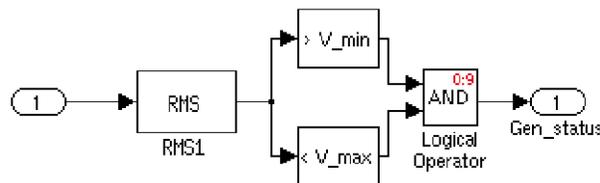

Fig. 3: Simulink block to monitor the generator's RMS voltage and detect violations of the desired range.
- To generate events for your BPCU, you will need to monitor each generator's output voltage and make sure that the RMS voltage is between  $V_{min}$  and  $V_{max}$ . As an example, you can implement such an RMS "sensor" out of Simulink standard library blocks, as shown in Fig. 3. *Gen\_status* is one if and only if the signal RMS voltage is in the desired range. Also, the RMS block in Fig. 3 requires a frequency parameter, which should be set to 400 Hz.